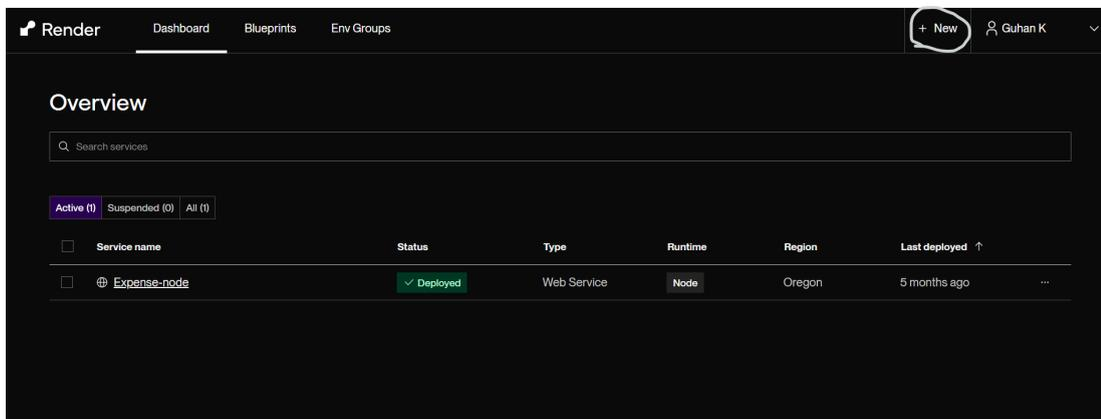

Fig : 4.4.2 - Render Dashboard for new deploying
- Click on the "New" button and select "Web Service" from the dropdown menu shown in Fig 4.4.2.